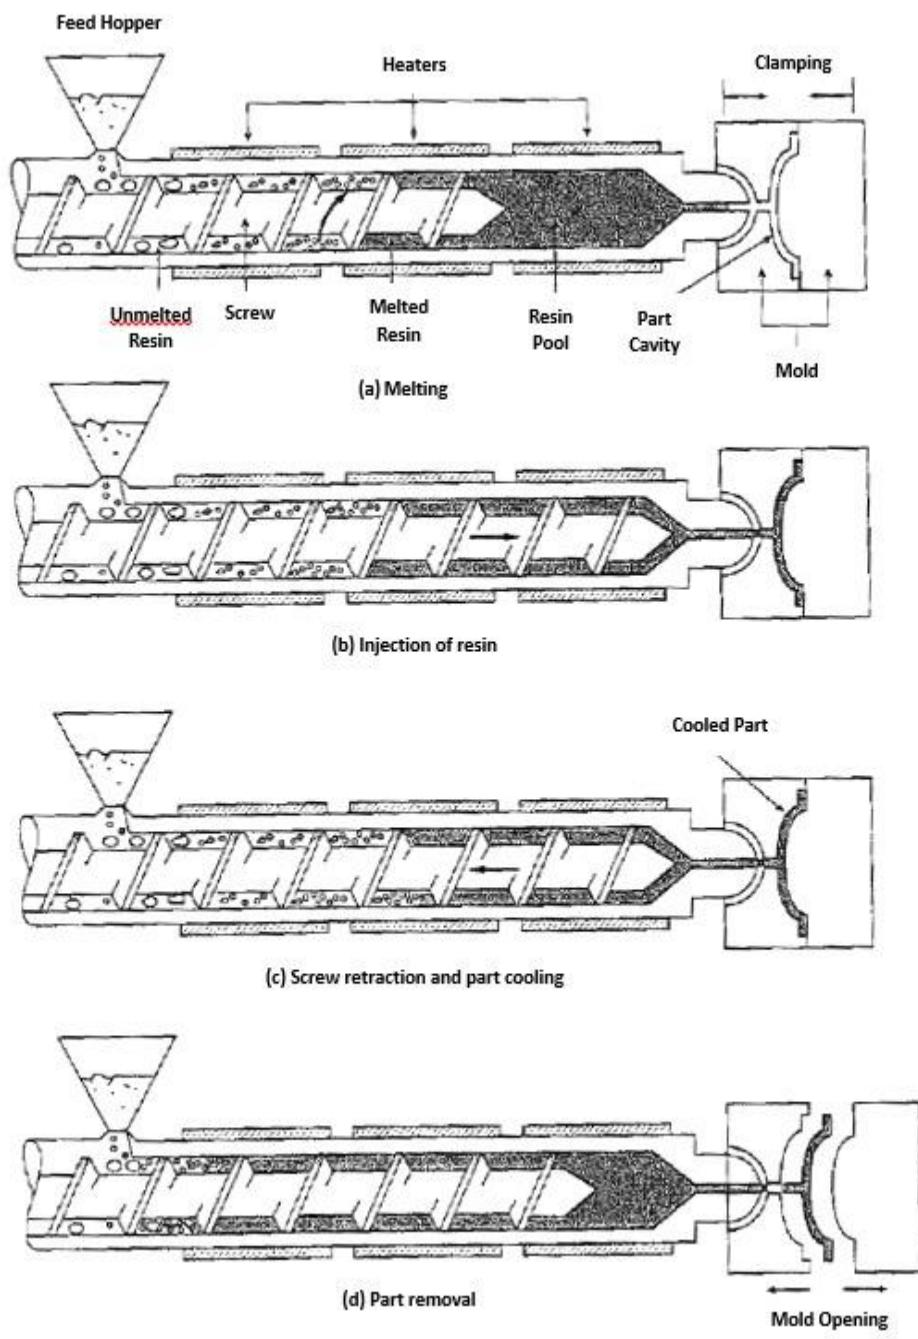

Figure 3b(ii): Injection cycle for injection moulding machine
- ii. Write the operating mechanism of the Injection Moulding based on Figure 3b(ii).